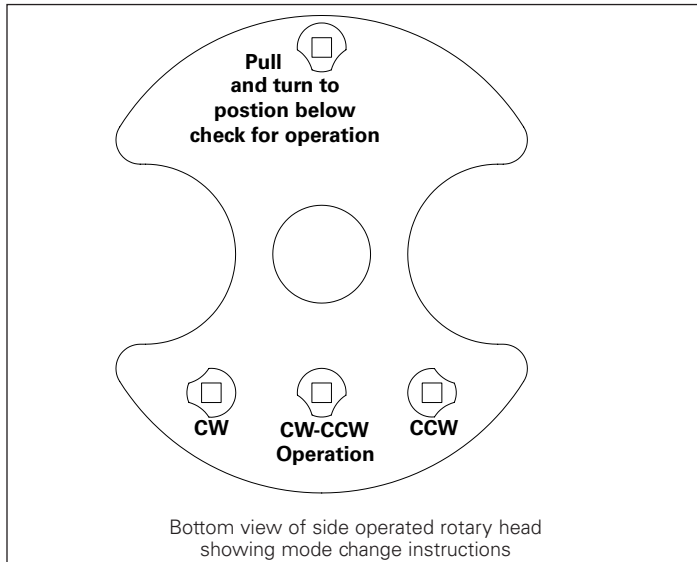

Figure 3. Head label.
Side Rotary - the operating mode (clockwise (CW), counter-clockwise or clockwise (CCW or CW), and counter-clockwise (CCW)) of these spring return operating heads is easily changed without tools as shown in Figure 3. Remove the head from the switch body. Pull out the plunger and turn until its position matches that shown on the diagram for the desired operation mode.